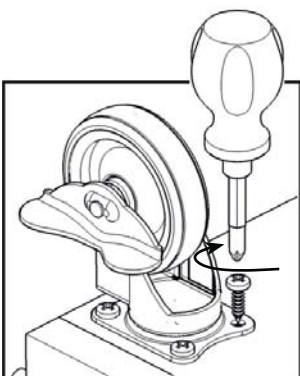

Figure 1
Attach 4X Casters to Base (J) with Wood Screws for Caster, with the Locking Casters at the front as indicated by 'Arrow' sticker. (see Figure 1)